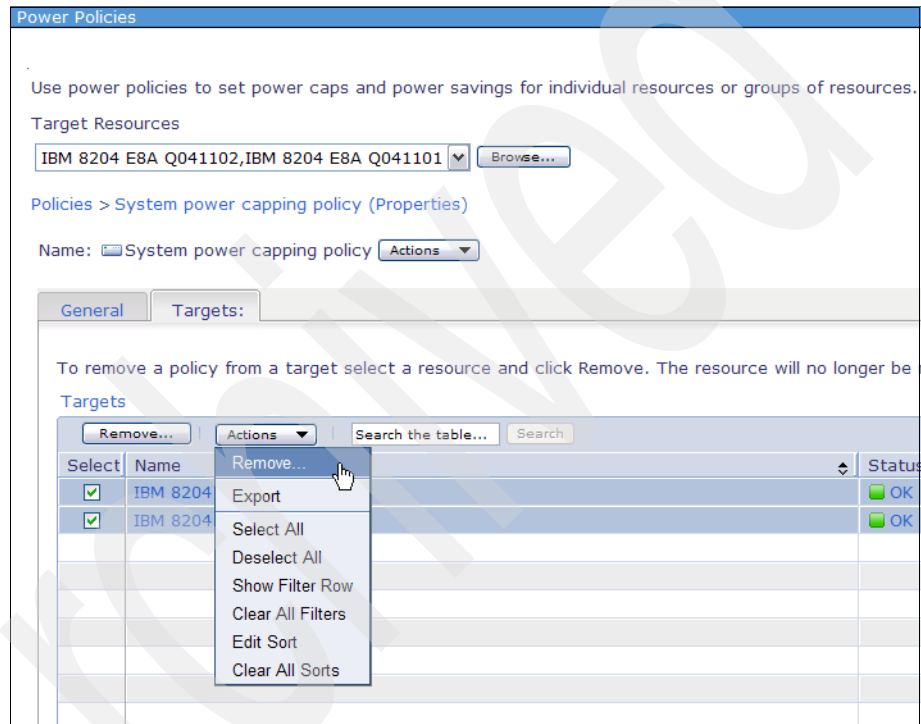

Figure 7-70 Removing a policy - 2
3. You see the properties of the policy (Figure 7-70 on page 355). Proceed as follows: